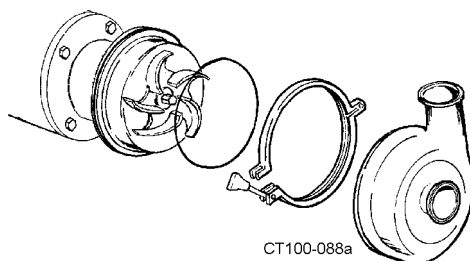

Figure 35 - Install Casing
18. Install the casing O-ring on the backplate and clamp the casing in place (Figure 35).